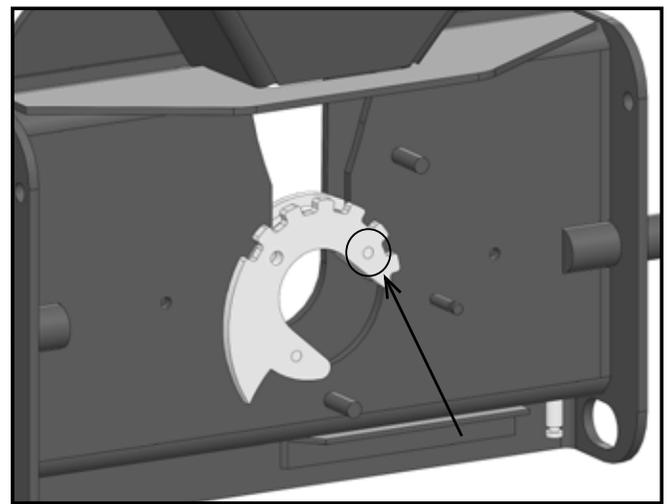

Figure 6
- Next, loosen the Button Head Cap Screw that is indicated in Figure 6.